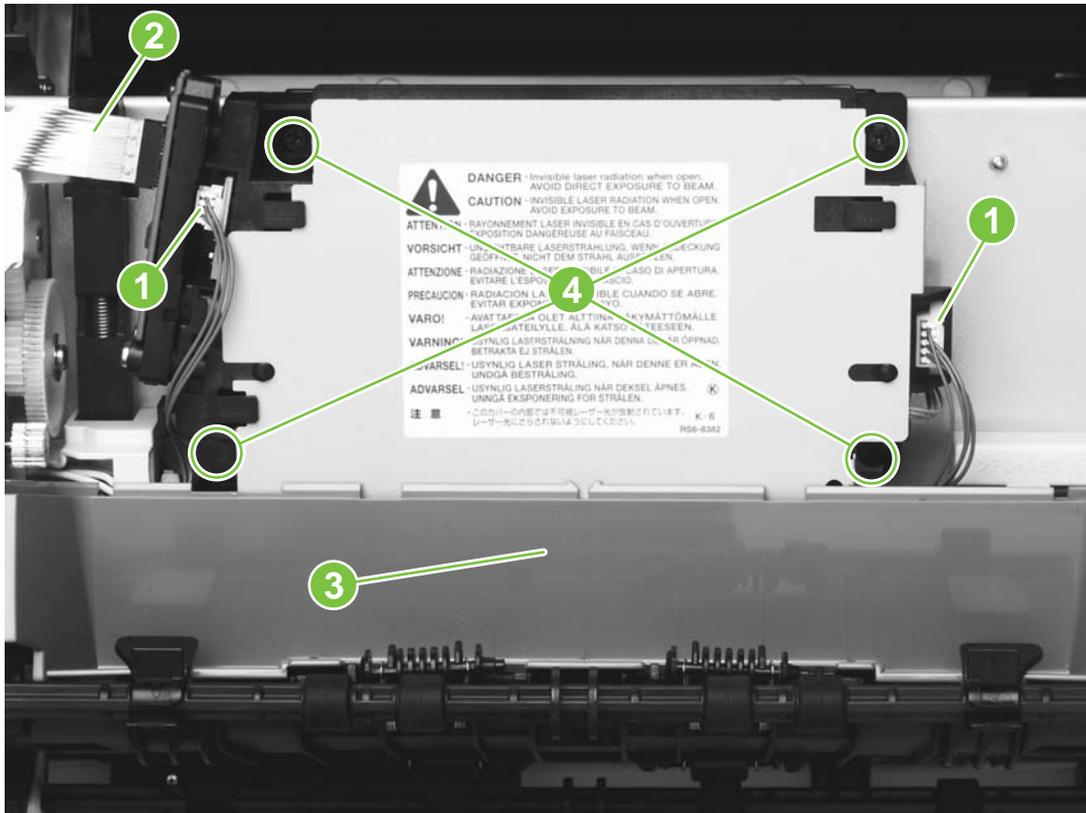
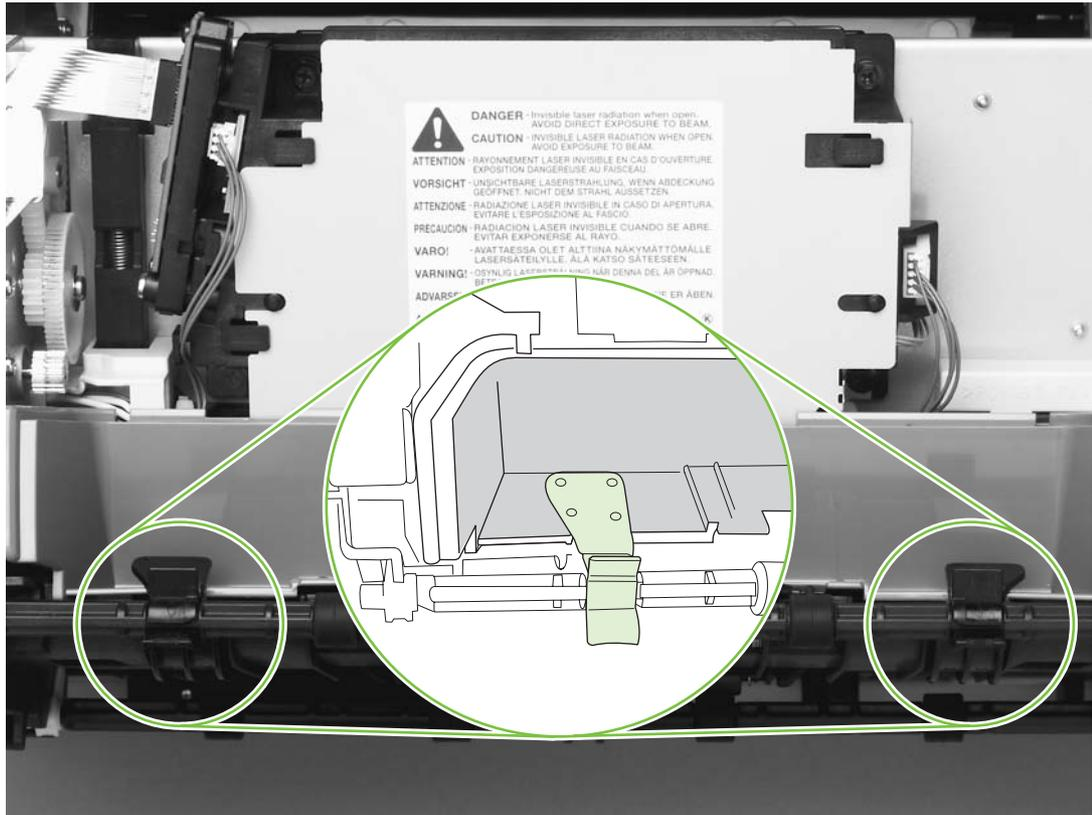

Figure 5-55 Remove the laser/scanner assembly
Figure 5-56 Reinstall the face-down cover
- When reinstalling the face-down cover (callout 3 in Figure 5-55 Remove the laser/scanner assembly), place the two forming holders (on the upper face-down roller) on top of the cover, as shown in Figure 5-56 Reinstall the face-down cover.